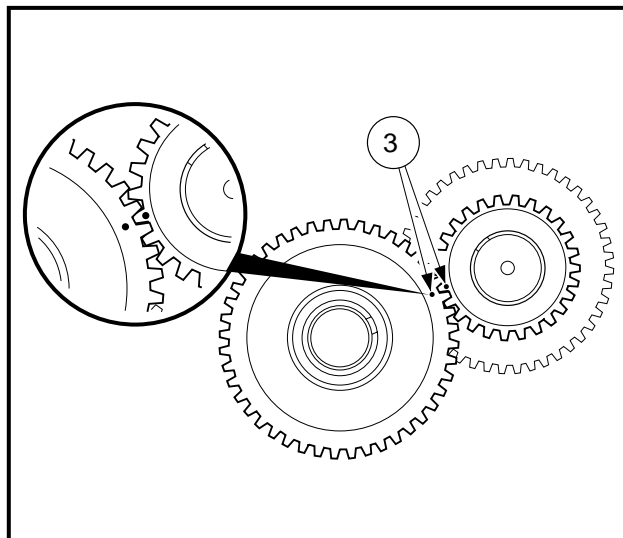

Figure 13-102 Align Timing Marks between Camshaft and Crankshaft
3. Align the timing marks (3) (**Figure 13-102, Page 13-46**).